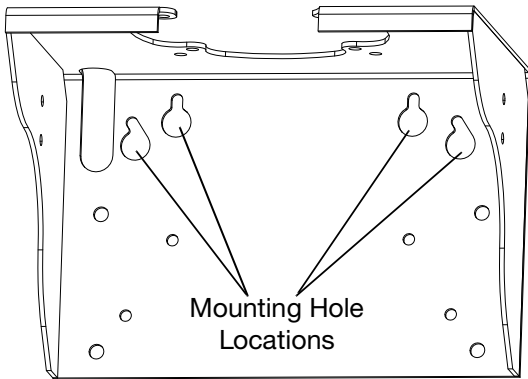

Fig. 29: Wall Mount Hole Locations
2. Ensure the wall mount is level using the wall bracket as a template. Drill four 7/16 in (11 mm) diameter holes for the mounting bolts. See **Fig. 29** for the mounting hole fastener locations.